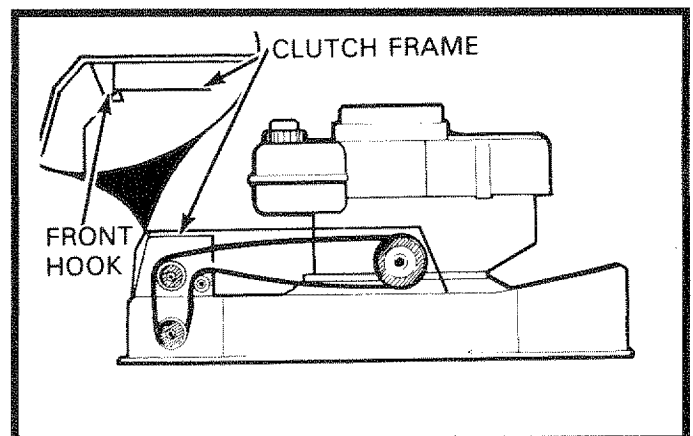

FIG. 15
- When reinstalling the Belt cover be sure the Front Hook is under the Clutch Frame (See Fig. 15). Reinstall Screw in rear of Cover.
**NOTE:** For Belt routing see Fig. 15.